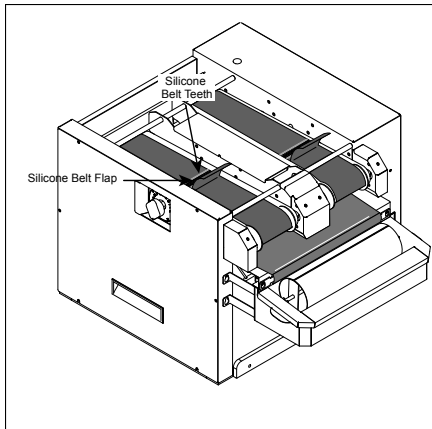

Figure 6. Removing Silicone Belt
3. Make sure flap of the Silicone Belt is accessible on the top side. Pull the Silicone Belt Pins out of the zipper on the Silicone Belts (Figure 6).
8. Install the new Silicone Belts in the front of the toaster above the Platen. Wrap the Silicone Belts around the Conveyor Belt Chain with the zipper flap exposed to the REAR of the unit (Figures 6 and 7).